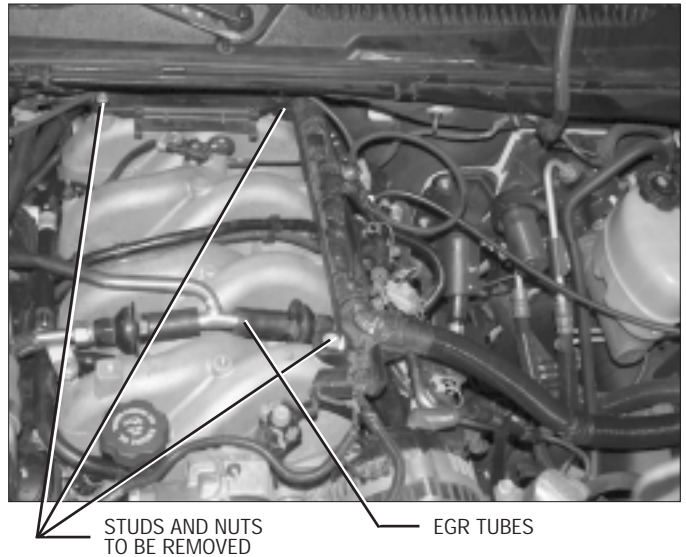

Fig. 2-a
- B. Remove both of the studs that are used to secure the plastic engine cover bracket. This will un-secure both a small bracket on the passenger's side and the rear of the larger plastic bracket connected to the main injector wiring harness. Continue un-securing the wiring harness/bracket assembly by removing the screw securing the front of the bracket. (See Fig. 2-a.)